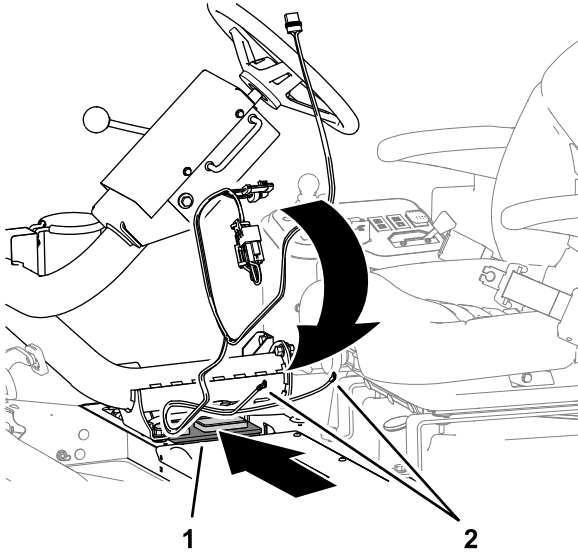

Figure 9
1. Route the 2 ring terminals of the power harness through the opening where you removed the inner battery cover (Figure 9)